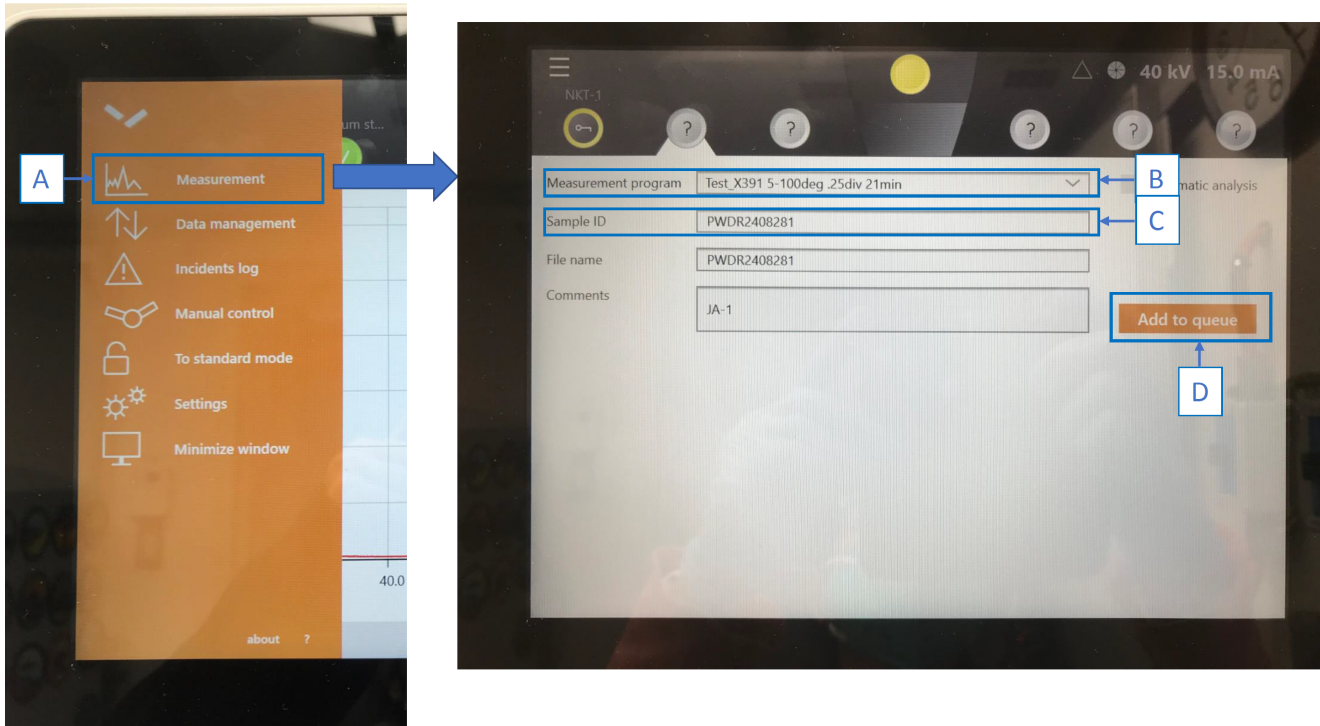

Figure 24. Starting a scan on the Aeris XRD. Sample ID set up screen.
1. Click on the MENU button  in the top left of the Aeris touchscreen and go to **Measurement** (Figure 24, arrow A).
3. Select the appropriate measurement program in the dropdown menu (Figure 24, arrow B).
4. Use the barcode scanner (on the right side of the Aeris) to scan the sample ID label into the sample ID field, or type it in with the keyboard (Figure 24, arrow C). The file name will auto populate. Add any comments as necessary such as clay separation, heated, standard, test. NOTE: If you are running clay samples you will end up with multiple runs that have the same sample info if you do not add extra info in the sample name. To make sure you can differentiate this in the database you must add extra text **before** the Text_ID so that it looks like the examples below. Do this step on the Aeris touch screen so that it gets included in the metadata of the file. See '**Uploading Data**' below for more information on file format.
5. Click **Start/Add to Queue** and the program will run right away (Figure 24, arrow D). The screen changes to a live view of the scan in progress (Figure 25A). If the sample is not in the sample changer you will not be able to click Start.
6. While the instrument is running the first sample, click on another circle where there is a sample and add the sample information and click **Add to Queue** (Figure 24, arrow D).